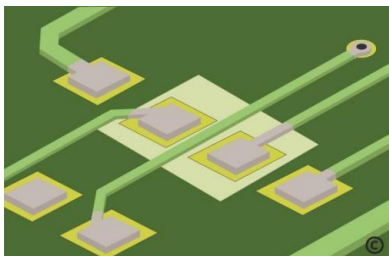

Fig. 3.9
1. Make sure that the area to have the solder mask repaired is cleaned and inspected (**Fig. 3.9**)